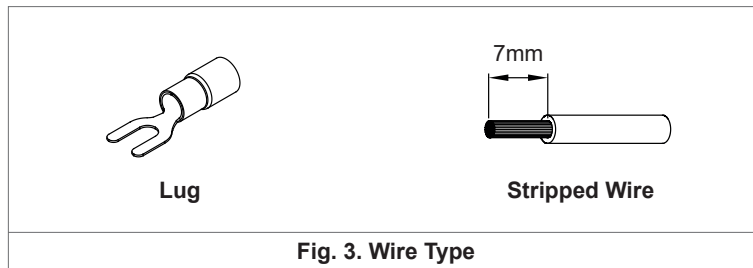

Fig. 3. Wire Type
(1) The torque at the Connector shall not exceed 13 Kgf.cm. The insulation stripping length should not exceed 0.275" or 7mm (Refer to Fig. 3).